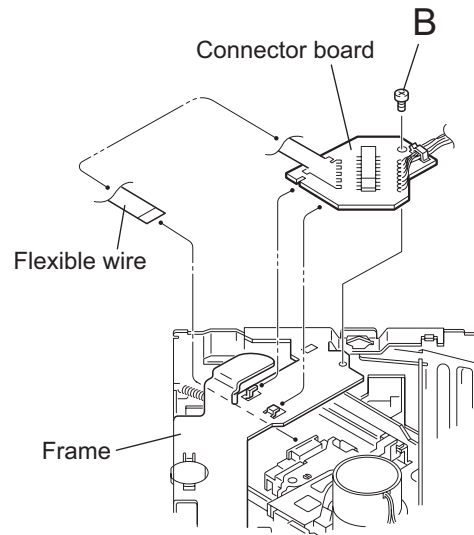

Fig.5
- (3) Lift the top chassis assembly in the direction of the arrow, disconnect the connector **CN501** on the mechanism control board from the connector **CN702** on the main board. (See Figs.5 and 6.)
- (4) Take out the top chassis assembly from the bottom chassis assembly.